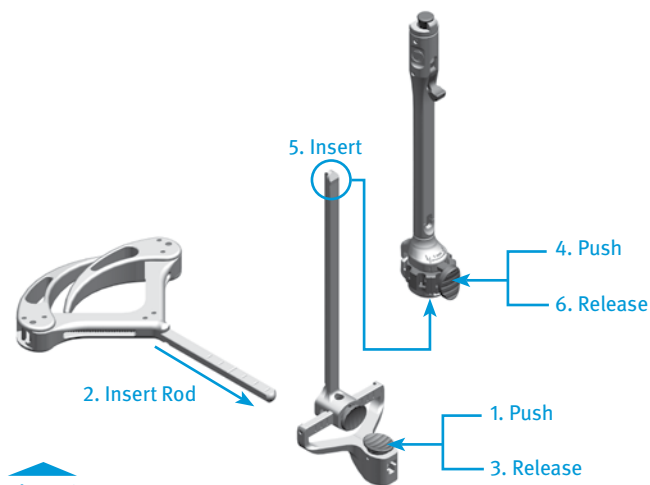

Fig. 16
- Depress and hold the button on the EM Distal Rod and insert the threaded rod on the EM Ankle Clamp into the distal rod and release the button. Depress and hold the button on the distal end of the EM Proximal Tube and insert the EM Distal Rod into the EM Proximal Tube and release the button (Fig. 16).